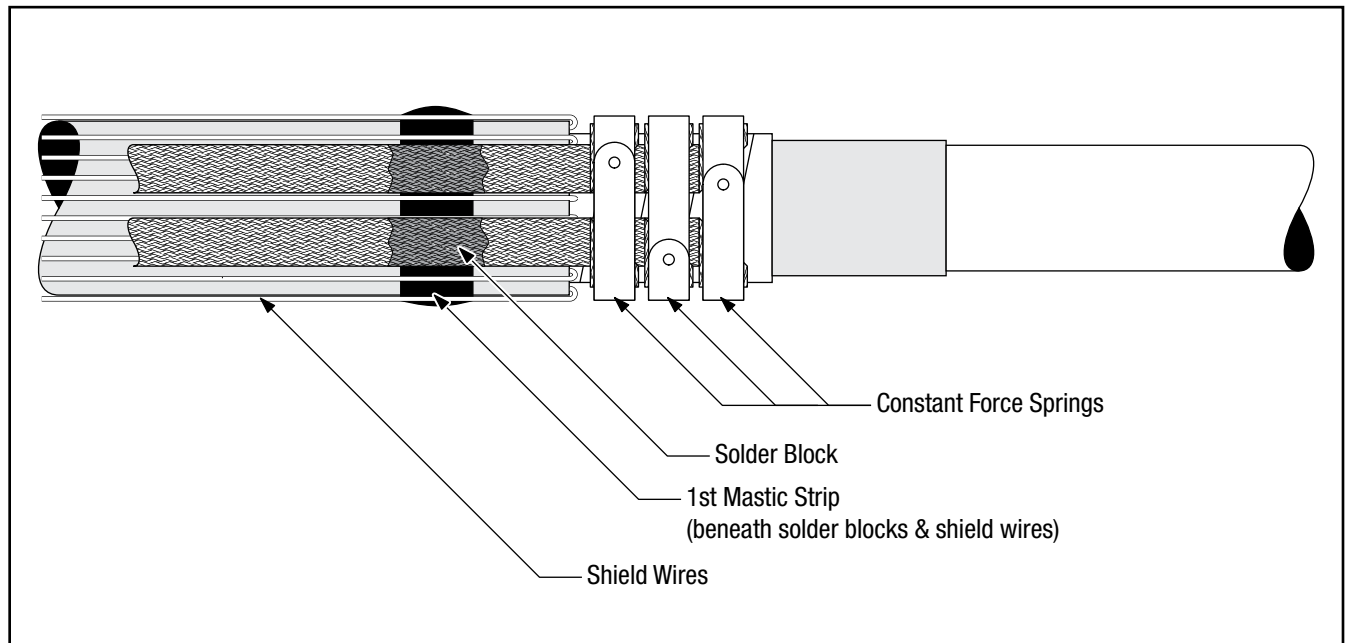

Figure 14
- 4.3 Select the roll of 1" (25 mm) wide 3M™ Scotch-Seal™ Mastic 2229 from the kit. Cut a length of mastic long enough to wrap around the cable jacket. Lift the ground braid tails and shield wires. Remove the release liner from the mastic and using light tension, apply a single wrap of mastic around the cable jacket positioned under the ground braid solder blocks and shield wires. Fold the shield wires, evenly spaced, back over the mastic. (Figure 14)